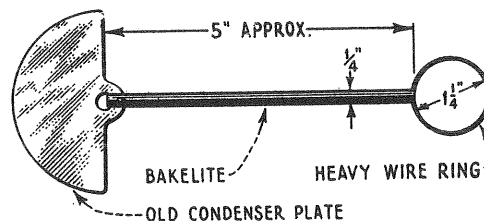

Figure 6—Aligning tool.
- (a) Procure or construct a tool as illustrated in Figure 6.